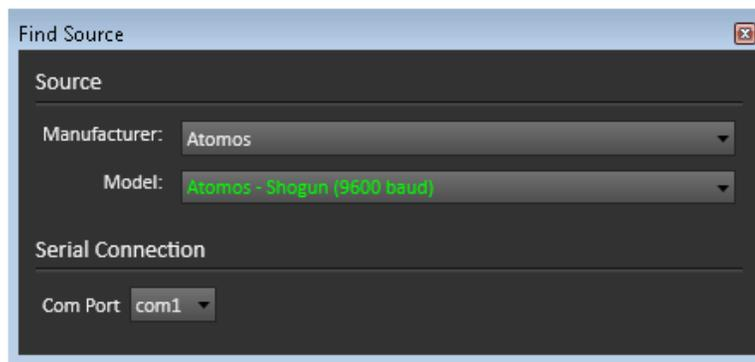

Figure 3. CalMAN Find Source dialog, for connecting to Atomos monitor as a CalMAN pattern generator.
2. On the *Find Source* dialog (Figure 3), under *Manufacturer*, select ‘Atomos.’